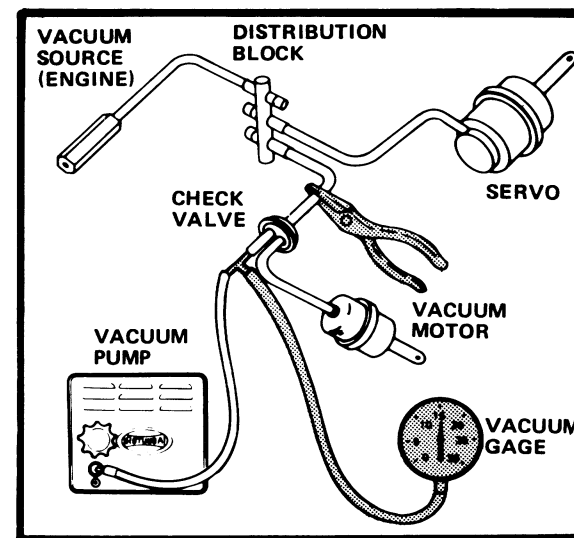

Figure 3 — Testing For Leak In Typical Vacuum System
1. Connect **Vacuum Gage** and **Vacuum Pump** (Figure 3) to system hose in place of tank.
3. Clamp supply hoses with needle-nose pliers one at a time until vacuum stops dropping (Figure 3).